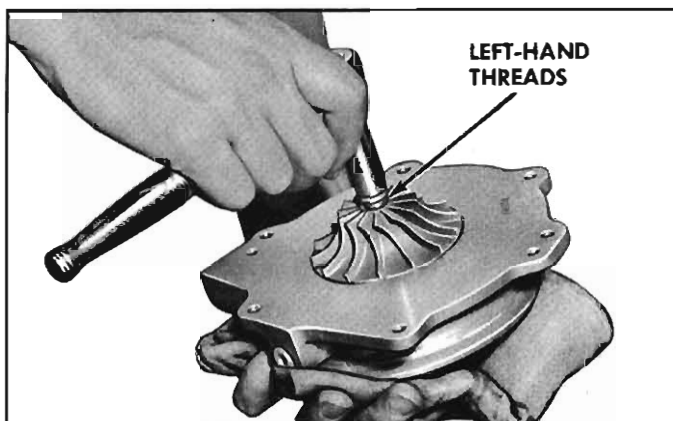

Fig. 9-43—Removing Impeller Nut
2. Hold the turbine wheel blades with a cloth and remove the self-locking nut (LEFT HAND THREADS) from the impeller end of the turbine shaft by turning clockwise (fig. 9-43), then remove the impeller washer.